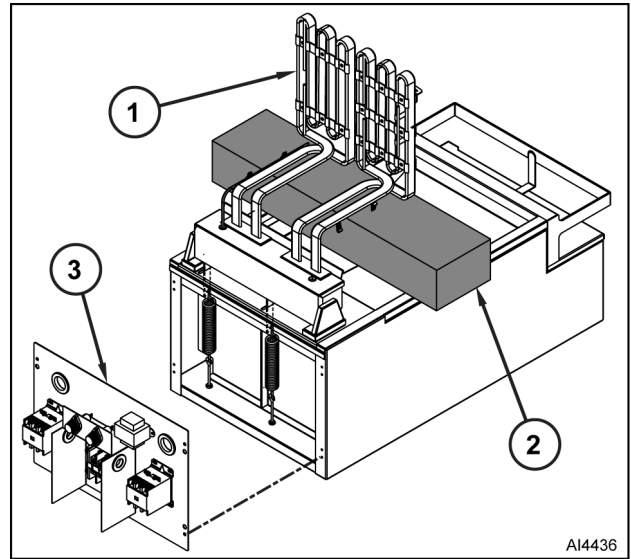

Fig. 16
- Raise heating elements (1, Fig. 16) and place 2x4 lumber (2) under them for support.
- Remove screws and electrical panel (3, Fig. 16).